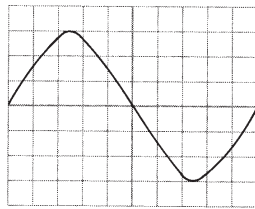

Fig. 3, Sine Wave
- Adjust TIMEBASE and triggering controls, if required, for an optimal display. (See Fig. 3).